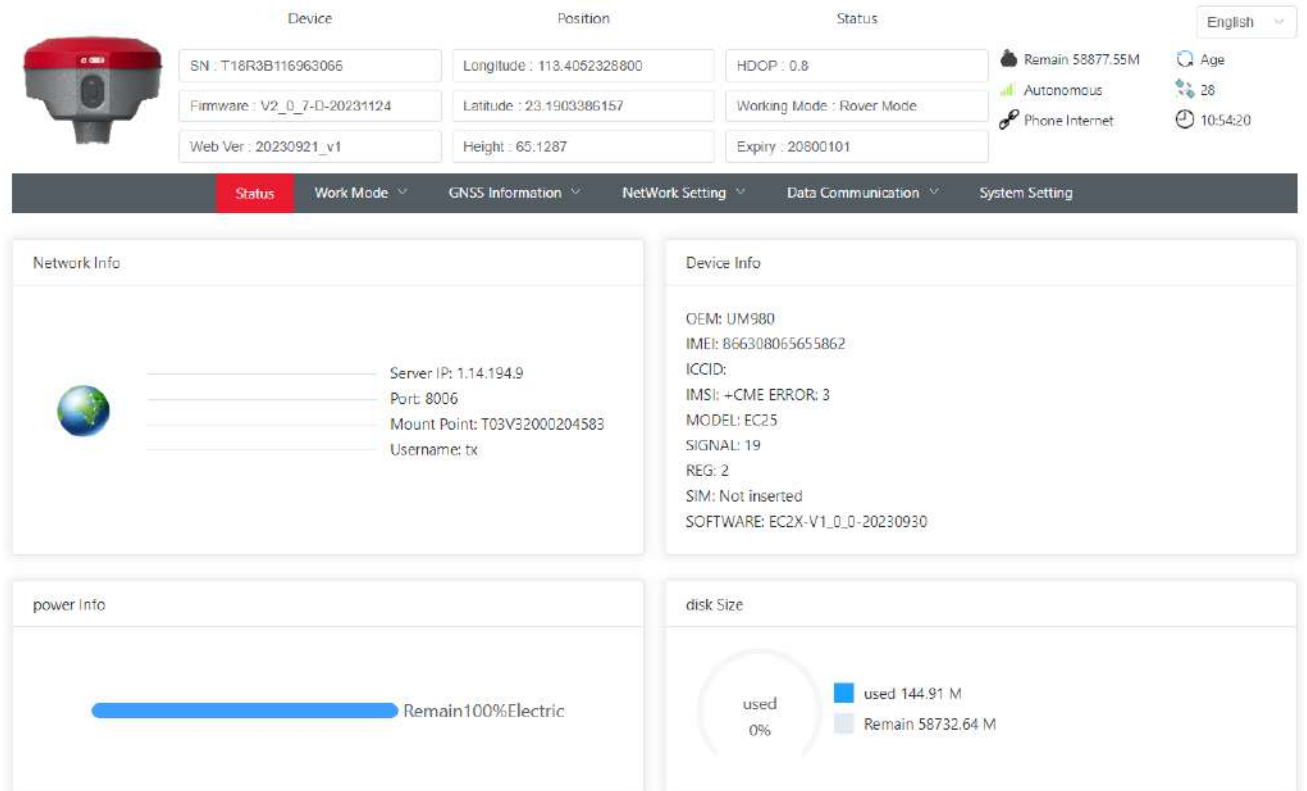

Figure 3-2: Web UI overview
3. Open a browser and type the IP **192.168.10.1** in the address bar, type ID: **admin** Password: **admin** to log in. The browser will open the ‘Overview’ page of the Web Interface shown in Figure 3-2.